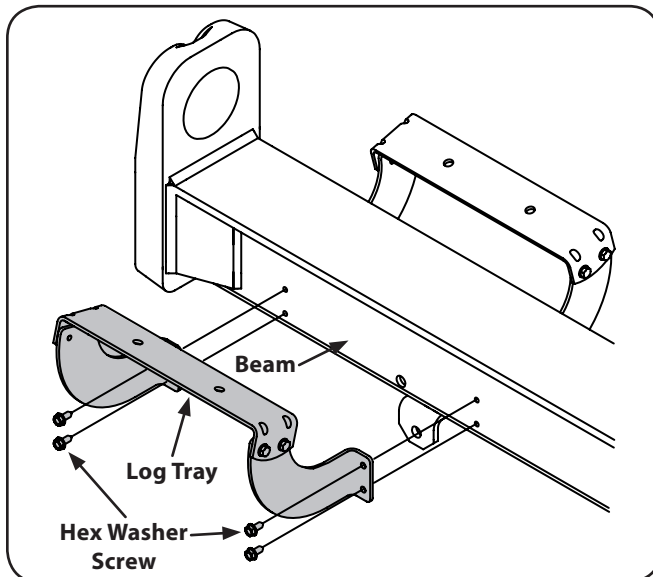

Figure 3-7
- Reattach the log tray to the side of the beam with the control valve, aligning the holes in the tray with the holes in the beam. See Fig. 3-7.